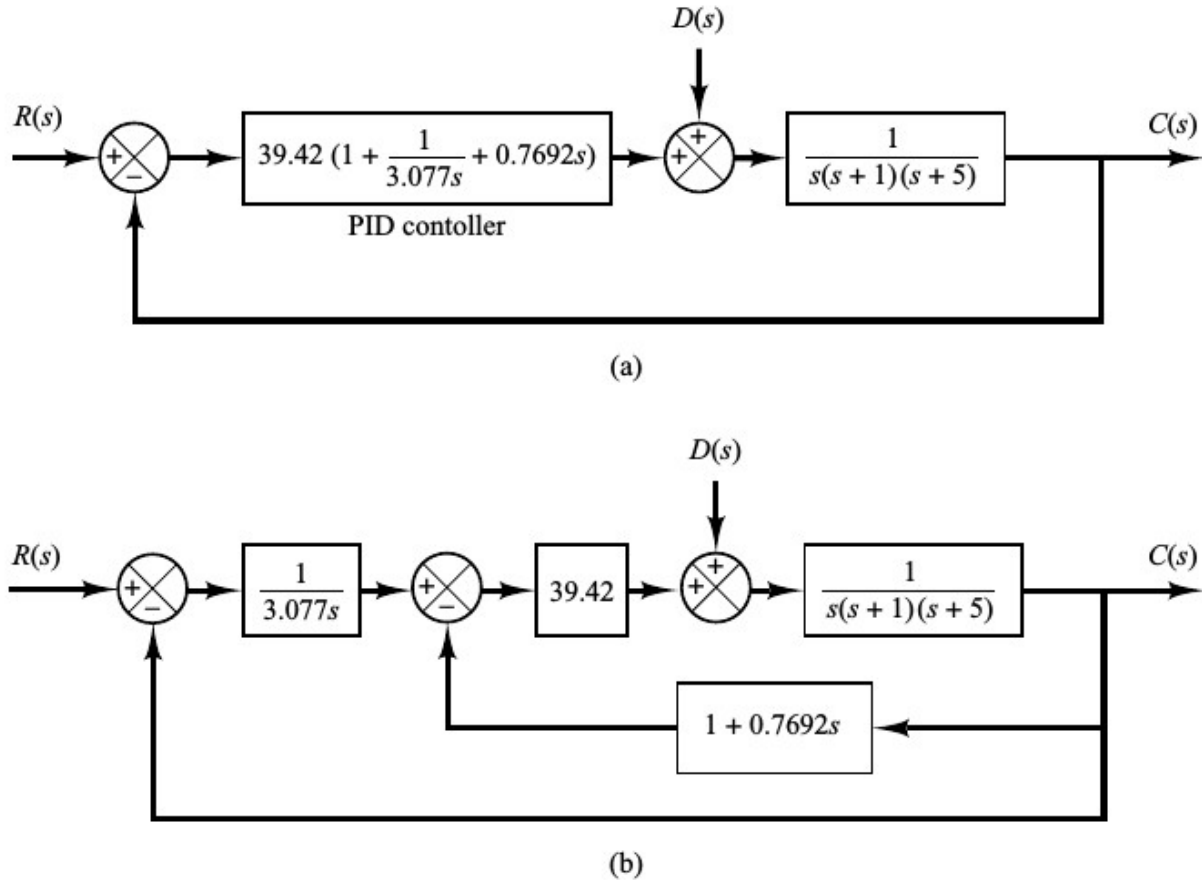

Figure 8-73
6) B-8-4. Consider the systems shown in Figures 8-73(a) and (b). The system shown in Figure 8-73(a) is the system designed in Example 8-1. The response to the unit-step reference input in the absence of the disturbance input is shown in Figure 8-10. The system shown in Figure 8-73(b) is the I-PD-controlled system using the same K_p , T_i , and T_d as the system shown in Figure 8-73(a). Obtain the response of the I-PD-controlled system to the unit-step reference input with MATLAB. Compare the unit-step response curves of the two systems.
7) B-8-5. Referring to Problem B-8-4, obtain the response of the PID-controlled system shown in Figure 8-73(a) to the unit-step disturbance input. Show that for the disturbance input, the responses of the PID-controlled system shown in Figure 8-73(a) and of the I-PD-controlled system shown in Figure 8-73(b) are exactly the same. [When considering $D(s)$ to be the input, assume that the reference input $R(s)$ is zero, and vice versa.] Also, compare the closed-loop transfer function $C(s)/R(s)$ of both systems.